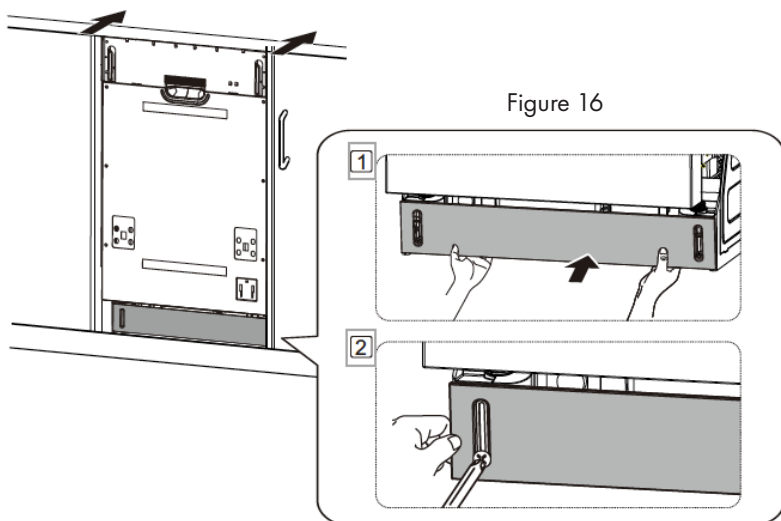

Figure 16
5. Confirm that the kick plate gasket is on the bottom of the kick plate. To install the kick plate with screw ST3.9* 13, refer to the figure 16.